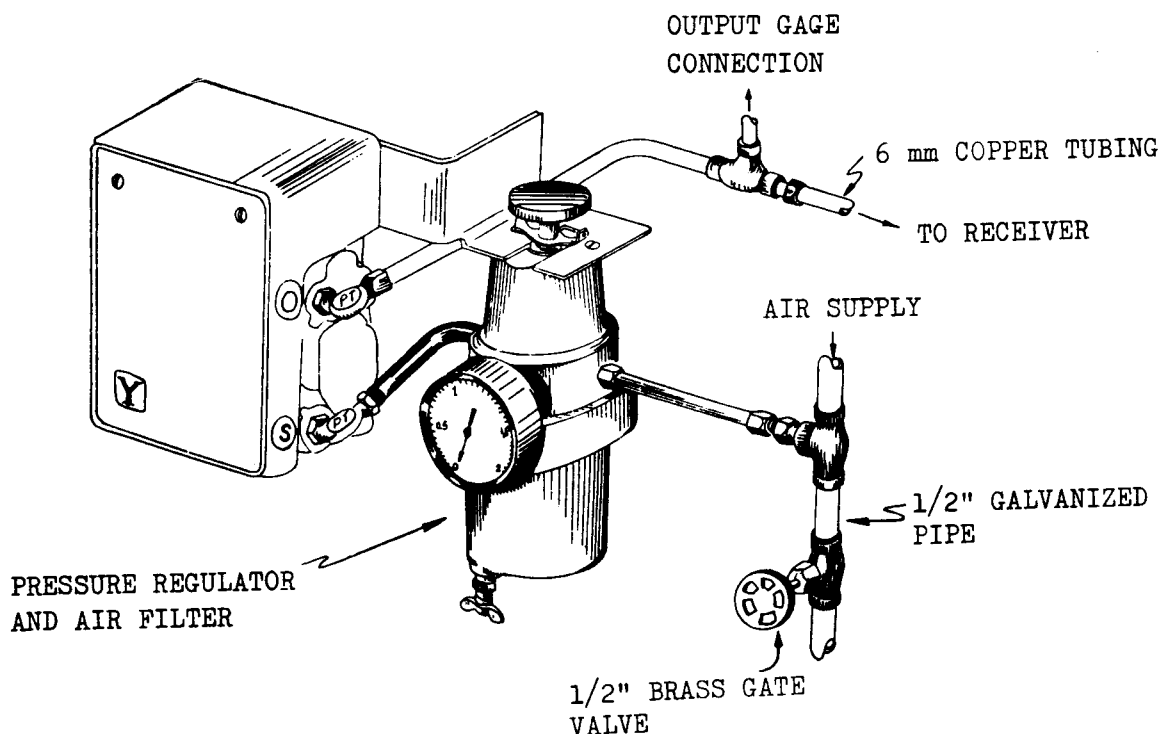

Figure 2 Input and output air connections.
b. Output Air Connection. (Figure 2). Connect the receiving device to the tap marked "O" in the manifold.